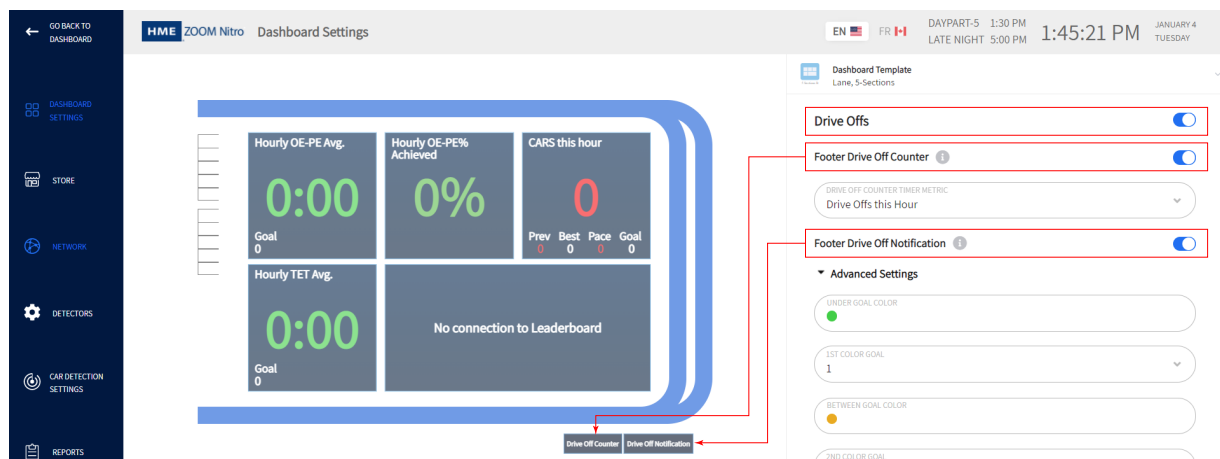

Fig. 3.8
If using Nitro Video Detection (NVD) in a drive-thru lane environment, the Drive Offs option is available in **Dashboard Settings**. To use the Drive Offs feature, first enable it, as shown in Fig. 3.8.
**Footer Drive Off Counter:** Enable this to see how many drive offs you have within a specific time period (half hour, hour, daypart, or day). These time periods are selected from the drop-down list of the DRIVE OFF COUNTER TIMER METRIC field. This counter appears below the lane and data section graphics as shown in Fig. 3.8.